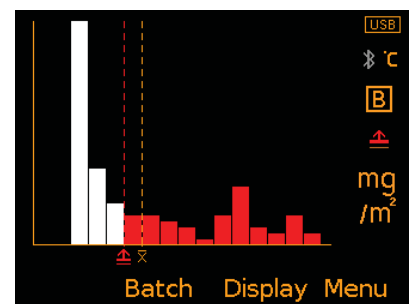

Fig. 6: Distribution Graph
- **Distribution Graph** (Fig. 6); Gives a visual representation of the spread of a salt contamination profile reading in relation to the mean contamination level and the limit if one is set.